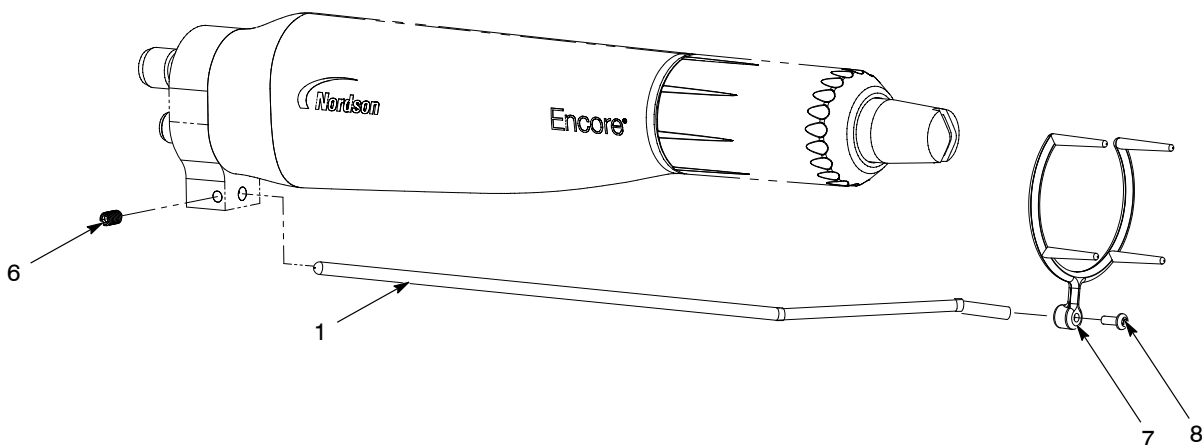

Figure 6 Ion Collector Installation – Bar Mount Gun
1. See Figure 6. Insert the collector rod (1) into the grounding plate and secure it with the M5 x 8 set screw (6) included in the ion collector kit.
2. Attach the multi-point tip (7) to the collector rod with the M3 x 8 screw (8).